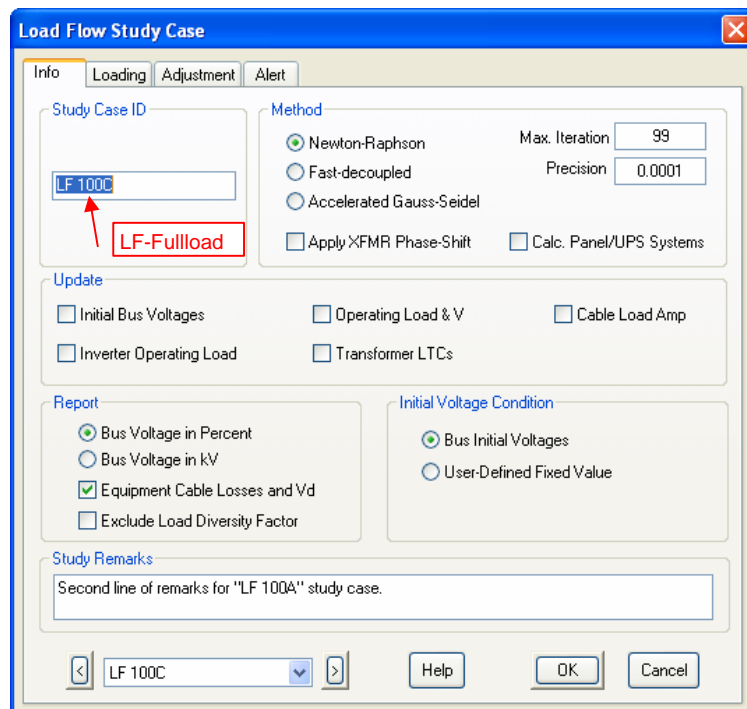

Fig. 5
- (d) On the “Load Flow Study Case” dialog, key-in the new ID in the textbox inside the “Study Case ID” frame. Let’s key-in “LF-Break1” and press “OK” button. See Fig. 5.